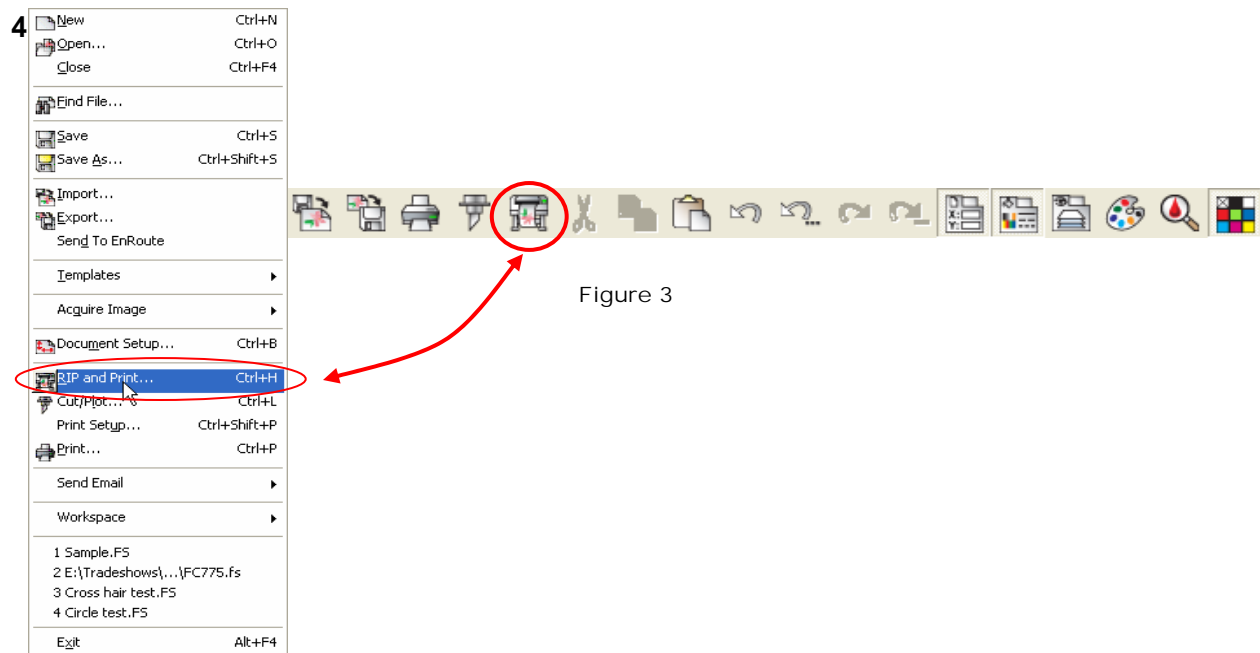

Figure 3
3. Select RIP AND PRINT Dialogue: File > RIP & Print or Click on the Icon shown in Fig 3.